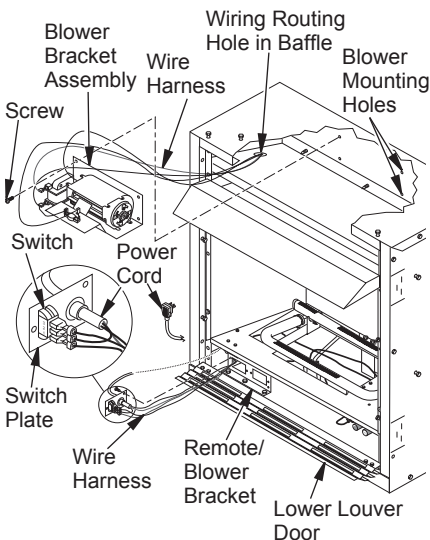
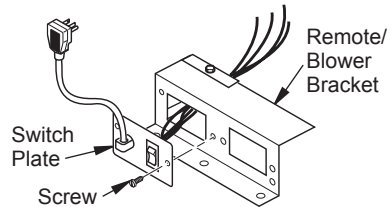

Figure 15 - Installing Blower Bracket Assembly (Remote-Ready Unit Shown)
Figure 17 - Installing Switch Plate to Remote/Blower Bracket
3. Note the wire locations on back of AUTO/OFF/ON switch. The terminals on back of switch are numbered 1, 2, and 3. Carefully remove red wire from terminal 3 and blue wire from terminal 1. Black wire can remain on middle terminal 2 (see Figure 15).
5. In top of the fireplace cabinet, locate the four mounting holes on the outer casing. Align these four holes with those on the blower bracket assembly. Attach blower bracket assembly to the outer casing with 4 #10 screws provided (see Figure 15).
7. Insert the 4 wire harnesses from behind the remote/blower bracket through hole in rear of bracket with bushing and through the left rectangular hole to front of fireplace (see Figure 15).
9. Install the switch plate on the remote/blower bracket with 2 #10 screws provided (see Figure 17). Route power cord out of the cabinet by inserting it through the bushing on the outer casing (see Figure 15). Plug fan kit into 120-Volt grounded power supply and test operation. *Note:* When switch is in the AUTO position, the fan will start after the fireplace has run for a few moments. The fan will continue to run for several moments after the fireplace has been turned off. When switch is in the ON position, the fan will run until turned to OFF.